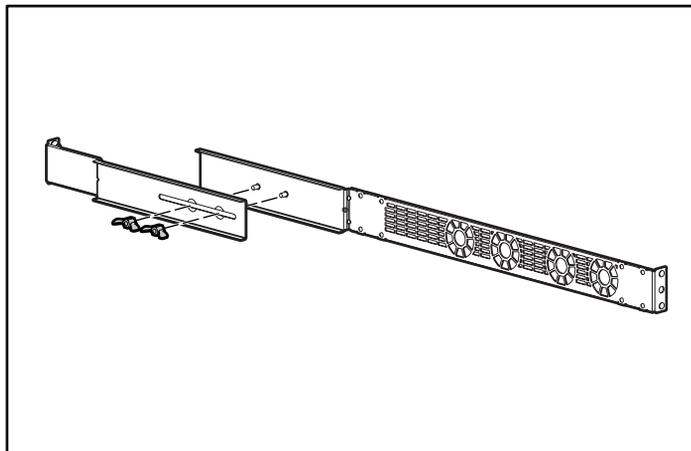

Figure 8: Rail assembly
4. Assemble the rails using the supplied wing nuts (see Figure 8).